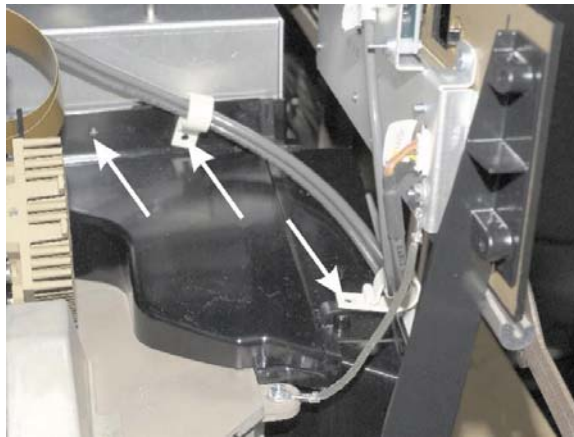

Figure 37. Remove Exhaust Duct
6. Remove the three (3) - #1 Phillips screws securing the black exhaust duct, which is located just above the lamp compartment (Figure 37.). Remove the duct from the projector.